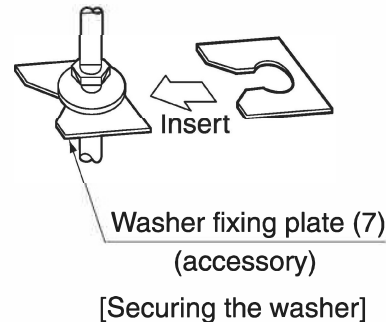

Fig. 11
The washer fixing plate (7) will prevent the washer from falling. **(Refer to Fig.11)**